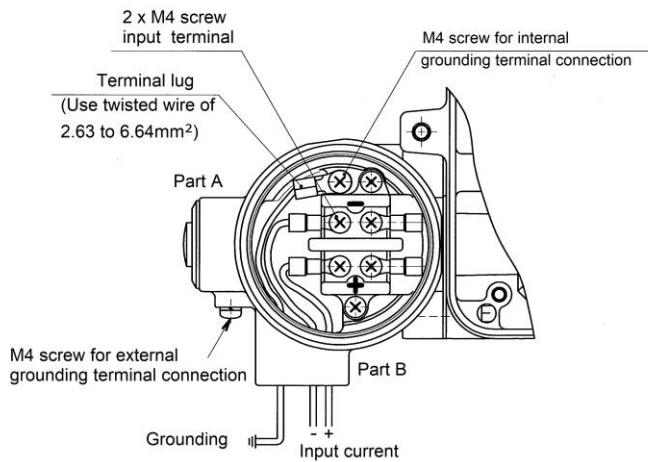

Fig 14. Positioner with terminal box
- (1) Connect the (+) and (-) output terminals from the regulator with the (+) and (-) input terminals, respectively, of the positioner terminal box. The port diameter at the conduction wire drawing port is the size of G1/2 parallel screw for piping and the depth is for a 16.5mm female screw.
- (2) Two drawing ports, marked as Part A and Part B in Fig.14, are provided. Use either one as fitted. (Part B is used in the figure).